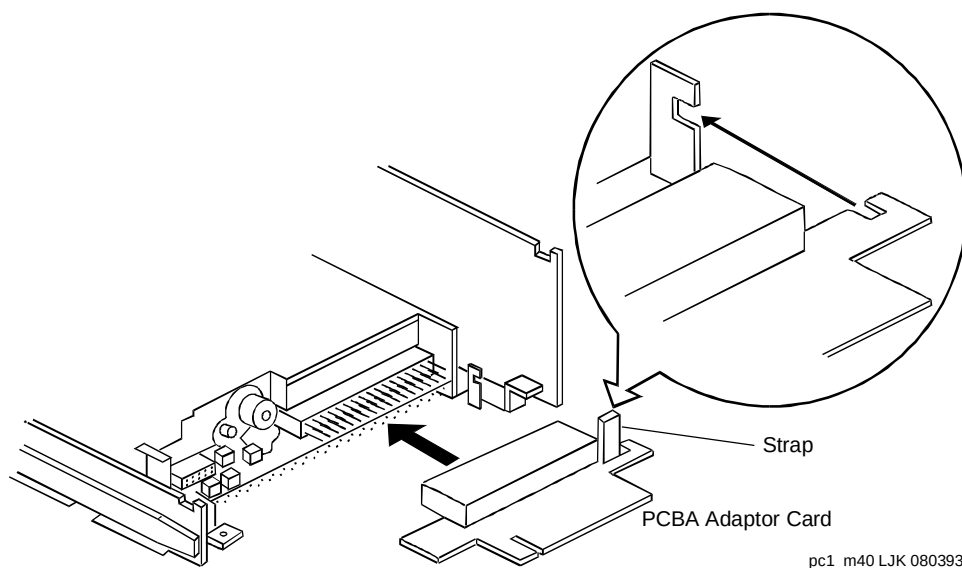

Figure 7-11. Diskette Drive Unit PCBA 5-Inch Adapter Card
12. Place the diskette drive assembly on an ESD-protected surface and carefully remove the PCBA 5-inch adapter card (Figure 7-11).
6. Attach the PCBA adapter card, being careful to align the tabs shown in Figure 7-11.